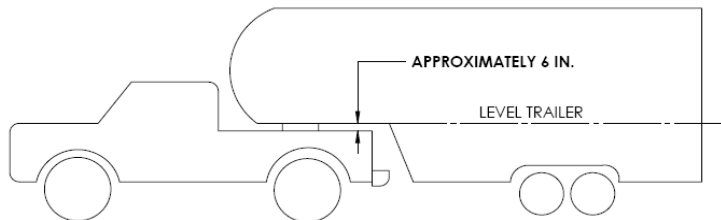

Figure 6
- The Height of the hitch and pin box should be adjusted so the trailer is approximately level as it is towed. Allow approximately 6 in. clearance between the top of the bed and the underside of the front of the trailer for pitch and yaw of the trailer (See Figure 6). For off-road use allow more clearance between pickup walls and trailer.